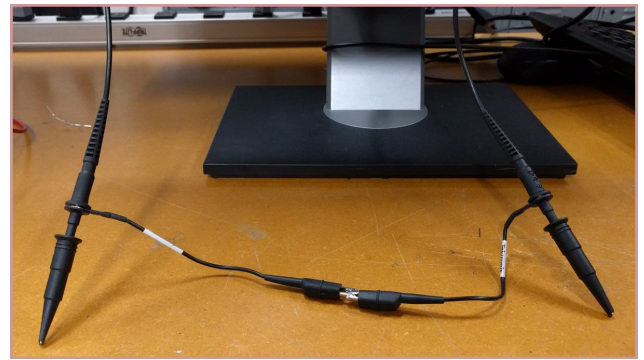
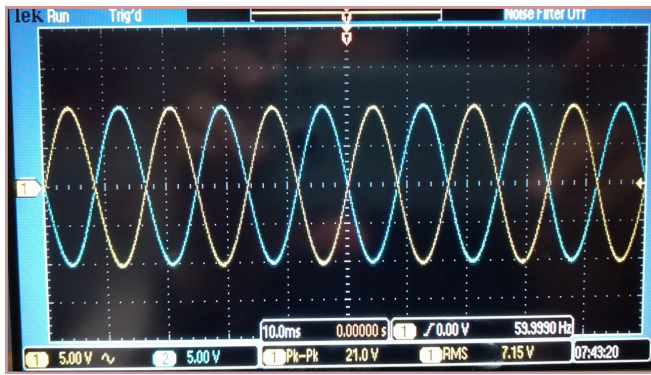
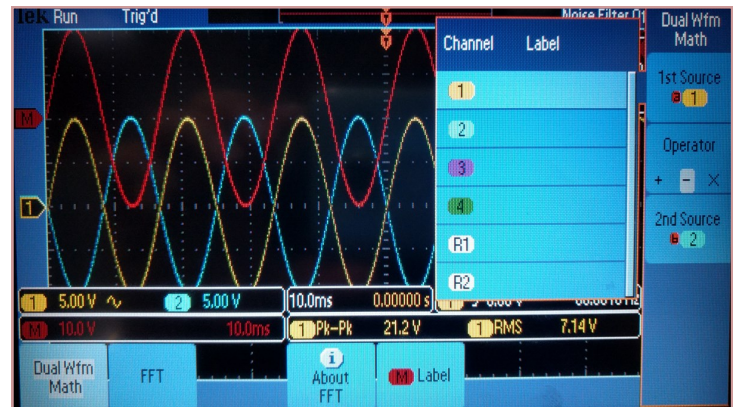
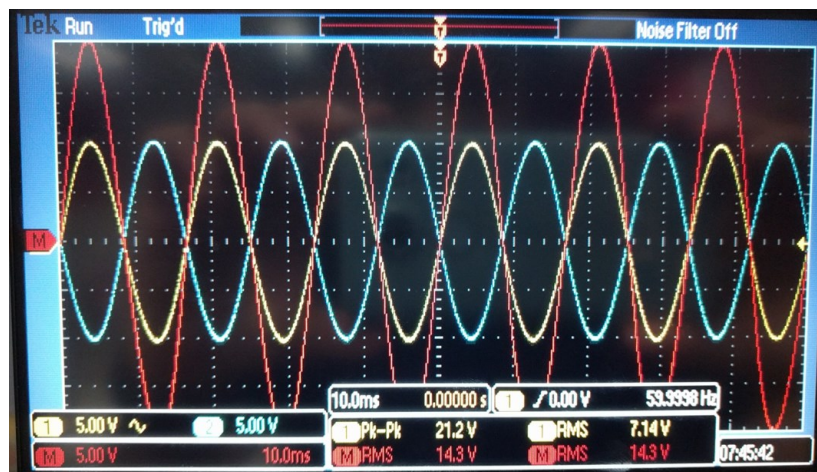

Figure 24. Differential output configuration.
Figure 25. Channels 1 and 2 before differential math function.
Figure 26. Adding math function and measurements.
Figure 27. Your screen should look like this.
5. Set up two oscilloscope probes to be differential as shown in Fig. 24. The ground leads are clipped together. Set the coupling to AC and enable both channels 1 and 2. Adjust the controls until your screen looks like Fig. 25. The two waveforms are in opposite polarity. Add measurements for peak to peak and RMS. Refer to the manual if you need to know how to do this. Next, hit the math button on the oscilloscope and set up "dual waveform math" to subtract the channels. A red trace, the difference between channel 1 and 2 appears as shown in Fig. 26. In the figure the trace was not set-up correctly as there was an offset and the vertical scale is not the same as the channels. Make any corrections if needed. Your screen should look like that shown in Fig. 27. Note that the red trace is twice the amplitude of a single channel. **(Photo)**